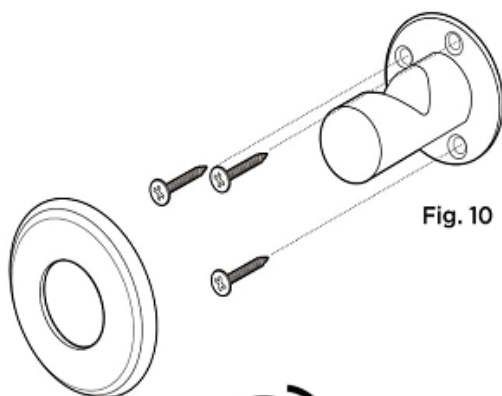

Fig. 10
- Mark then predrill the mounting holes. **Fig. 10**